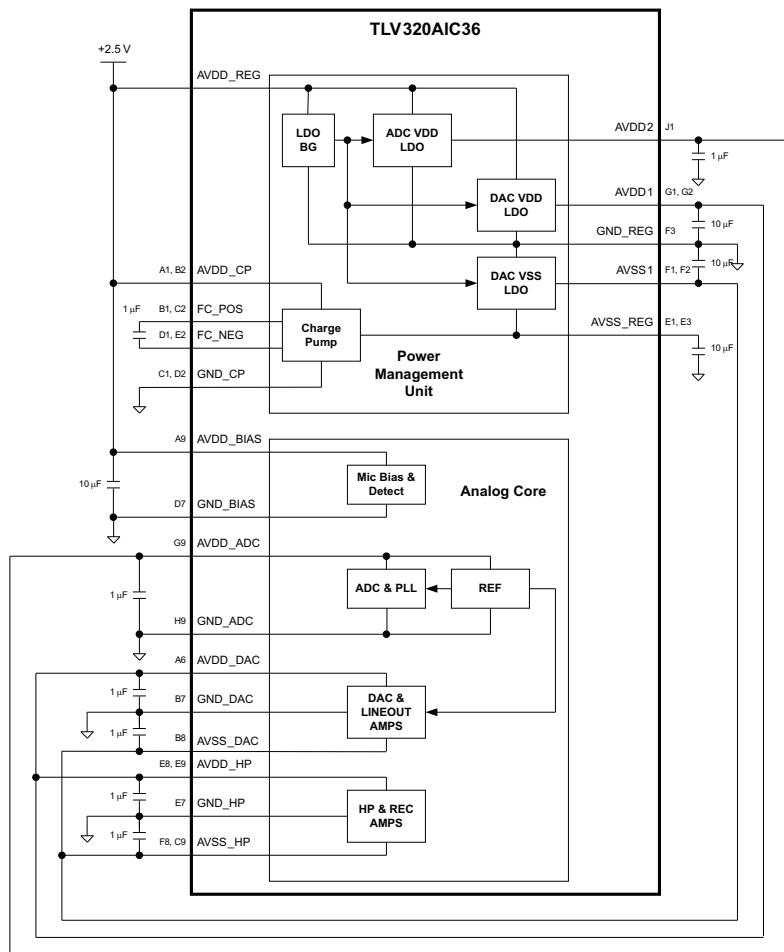

Figure 5-48. Recommended Analog Power Supply Connections
The allowed voltage supply ranges for the TLV320AIC36 analog blocks are 1.4 V to 1.8 V and -1.4 V to -1.8V. To ease system-level design, a charge pump and three low-dropout regulators (LDOs) are integrated to generate the appropriate analog voltage supplies from a single 2.1 to 2.8 V supply input. One positive LDO is used to generate a nominal +1.8 V supply for the input PGA and ADC section and another positive LDO generates a nominal +1.65 V for the DAC and audio amplifier sections. A negative charge pump generates a negative voltage which is then regulated to a nominal -1.65 V using a negative LDO. Figure 5-48 shows suggested hookup from the PMU to the analog core.
The first low power (LP) mode is capable of reducing power dissipation to 14mW for DAC to headphone playback. Max headphone output power is 20mW per channel. Referring to Figure 5-48, the changes are:
Referring to Figure 5-48, the changes are